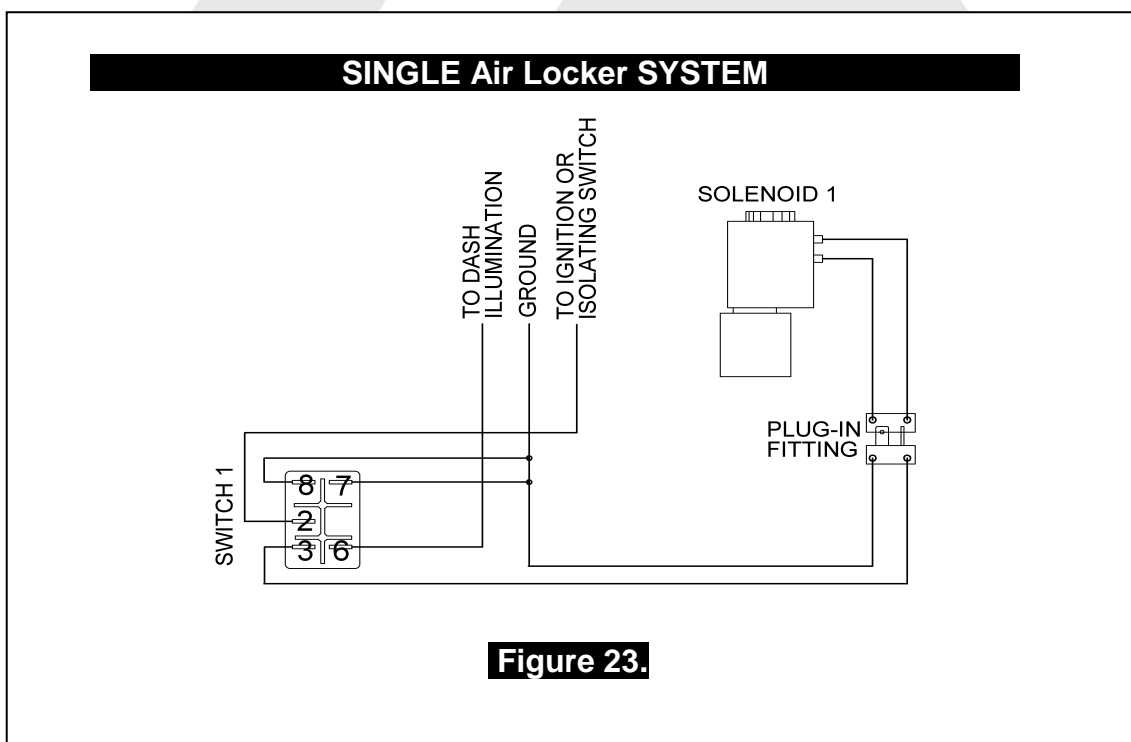

Figure 23.
When connecting the actuation switch to an alternate air source, the switch(es) should be wired according to figures 23. and 24. depending on whether one or two *Air Lockers* will be installed in the vehicle.
- ☐ If only one *Air Locker* is to be installed in the system, the switch and solenoid should be wired according to figure 23. regardless of whether the *Air Locker* has been installed in the front or rear axle of the vehicle.